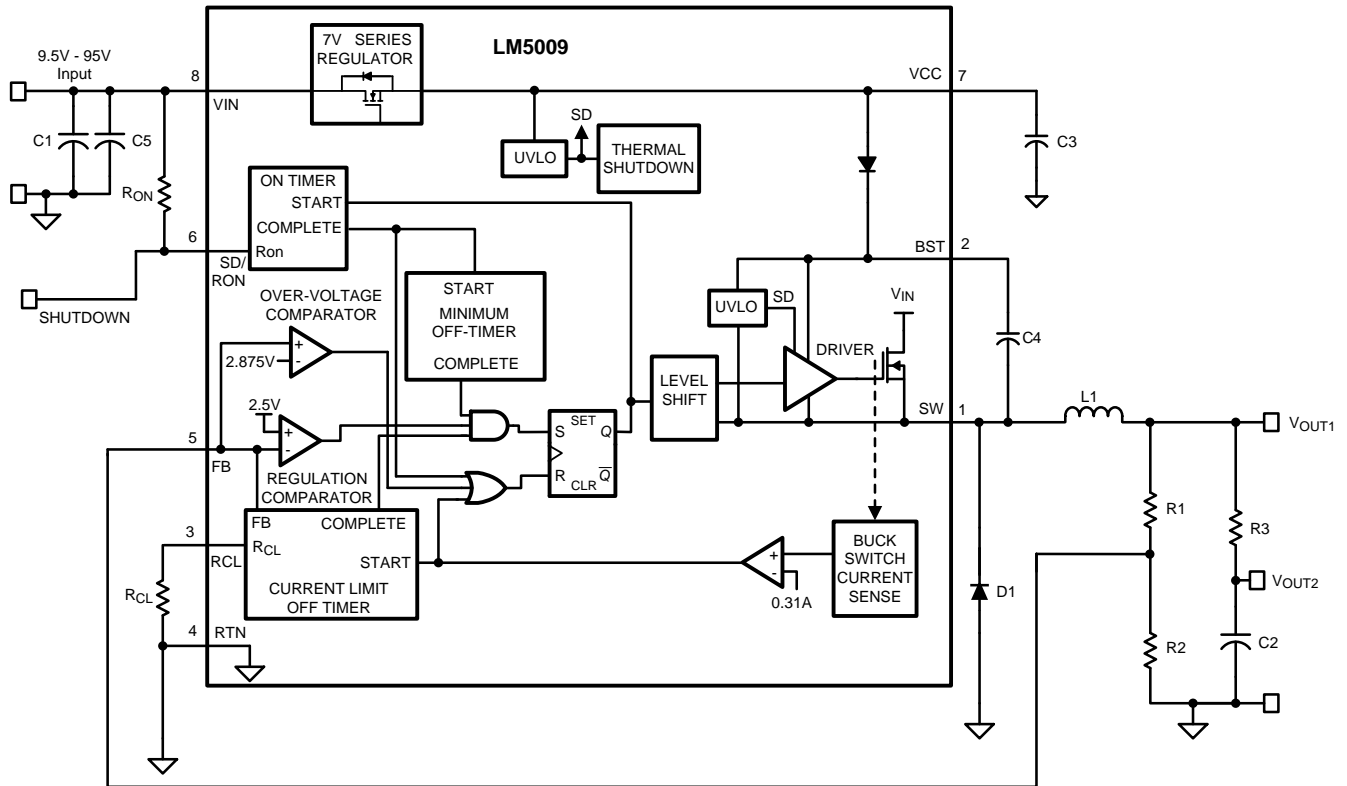

Figure 8.
The LM5009 Step Down Switching Regulator features all the functions needed to implement a low cost, efficient, Buck bias power converter. This high voltage regulator contains a 100 V N-Channel Buck Switch, is easy to implement and is provided in the VSSOP-8 and the thermally enhanced WSON-8 packages. The regulator is based on a control scheme using an on-time inversely proportional to V_{IN} . The control scheme requires no loop compensation. Current limit is implemented with forced off-time, which is inversely proportional to V_{OUT} . This scheme ensures short circuit protection while providing minimum foldback. The Functional Block Diagram of the LM5009 is shown in Figure 8.
The output voltage (V_{OUT}) is programmed by two external resistors as shown in Figure 8. The regulation point is calculated as follows:
This regulator regulates the output voltage based on ripple voltage at the feedback input, requiring a minimum amount of ESR for the output capacitor C2. A minimum of 25mV of ripple voltage at the feedback pin (FB) is required for the LM5009. In cases where the capacitor ESR is too small, additional series resistance may be required (R3 in Figure 8).
A guide for determining the component values will be illustrated with a design example. Refer to Figure 8. The following steps will configure the LM5009 for:
R1 and R2: From Figure 8, $V_{OUT1} = V_{FB} \times (R1 + R2) / R2$, and since $V_{FB} = 2.5V$, the ratio of R1 to R2 calculates as 3:1. Standard values of 3.01 k Ω (R1) and 1.00 k Ω (R2) are chosen. Other values could be used as long as the 3:1 ratio is maintained. The selected values, however, provide a small amount of output loading (2.5 mA) in the event the main load is disconnected. This allows the circuit to maintain regulation until the main load is reconnected.
a) **ESR and R3:** A low ESR for C2 is generally desirable so as to minimize power losses and heating within the capacitor. However, this regulator requires a minimum amount of ripple voltage at the feedback input for proper loop operation. For the LM5009 the minimum ripple required at pin 5 is 25 mV peak-to-peak, requiring a minimum ripple at V_{OUT1} of 100 mV. Since the minimum ripple current (at minimum V_{in}) is 33 mA peak-to-peak, the minimum ESR required at V_{OUT1} is 3 Ω . Since quality capacitors for SMPS applications have an ESR considerably less than this, R3 is inserted as shown in Figure 8. R3's value, along with C2's ESR, must result in at least 25 mV peak-to-peak ripple at pin 5. Generally, R3 will be 0.5 Ω to 5.0 Ω .